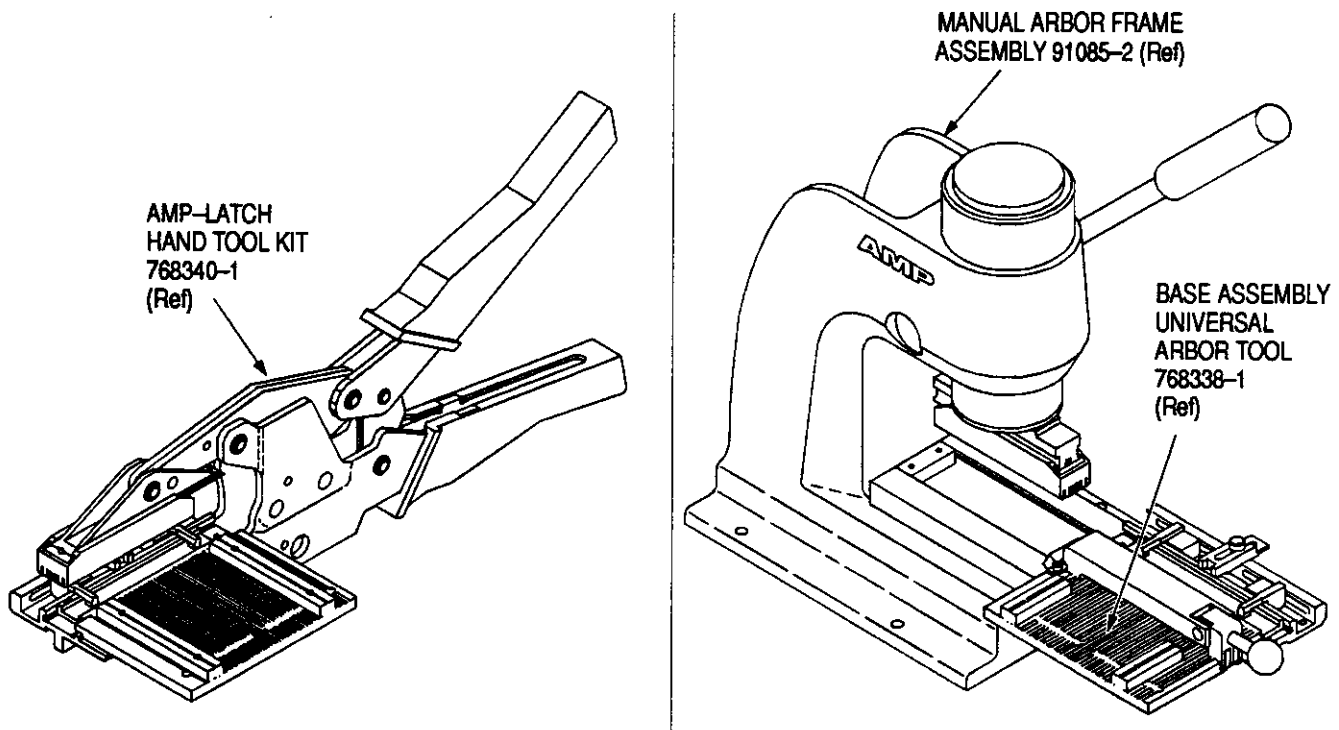

Figure 1
This instruction sheet describes AMP Connector-Specific Kit 768348-1, lists cable requirements, and describes installation of the kit. (See Figure 1.)
The connector-specific kit is used with AMP-LATCH Hand Tool Kit 768340-1 or Base Assembly Universal Arbor Tool 768338-1 (Figure 1) to terminate
2. DESCRIPTION (Figure 1)